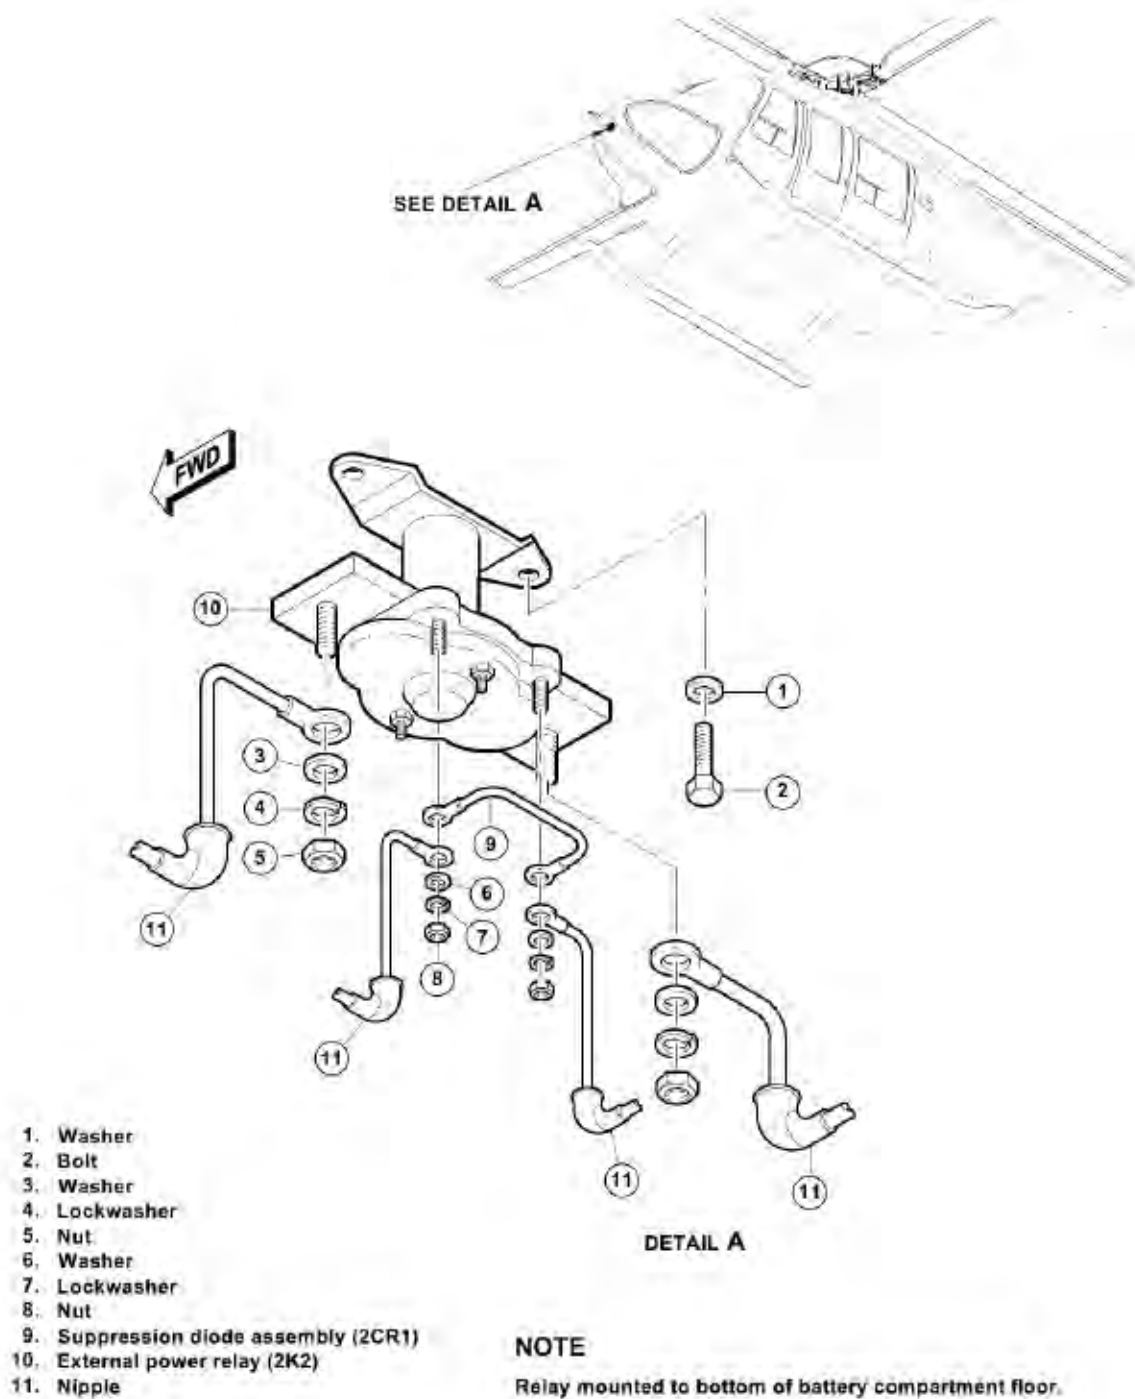

Figure 96-23: External Power Relay (2K2) - Removal and Installation
4. Pull away the nipples (11, Figure 96-23) from terminals A1 and A2.
5. Remove the nuts (5), washers (3), and lockwashers (4) from terminals A1 and A2.
6. Remove the nuts (8), washers (6), and lockwashers (7) from terminals X1 and X2.
7. Tag and remove the wires from the terminals of the relay (2K2) (10).
8. Remove the suppression diode assembly (2CR2) (9) from terminals X1 and X2.
9. Remove the bolts (2) and washers (1).
10. Remove the external power relay (2K2) (10).
1. Install the external power relay (2K2) (10, Figure 96-23) on the under side of the battery compartment shelf.
2. Install the washers (1) and the bolts (2) that attach the external power relay (2K2) (10).